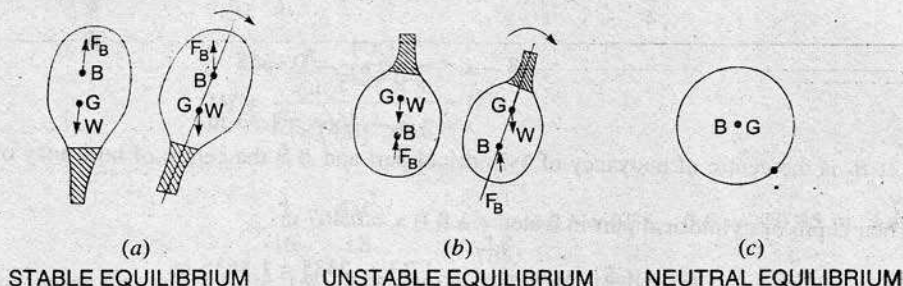

Fig. 4.12 Stabilities of sub-merged bodies.
4.7.1 Stability of a Sub-merged Body. The position of centre of gravity and centre of buoyancy in case of a completely sub-merged body are fixed. Consider a balloon, which is completely sub-merged in air. Let the lower portion of the balloon contains heavier material, so that its centre of gravity is lower than its centre of buoyancy as shown in Fig. 4.12 (a). Let the weight of the balloon is W . The weight W is acting through G , vertically in the downward direction, while the buoyant force F_B is acting vertically up, through B . For the equilibrium of the balloon $W = F_B$. If the balloon is given an angular displacement in the clockwise direction as shown in Fig. 4.12 (a), then W and F_B constitute a couple acting in the anti-clockwise direction and brings the balloon in the original position. Thus the balloon in the position, shown by Fig. 4.12 (a) is in stable equilibrium.
(b) **Unstable Equilibrium.** If $W = F_B$, but the centre of buoyancy (B) is below centre of gravity (G), the body is in unstable equilibrium as shown in Fig. 4.12 (b). A slight displacement to the body, in the clockwise direction, gives the couple due to W and F_B also in the clockwise direction. Thus the body does not return to its original position and hence the body is in unstable equilibrium.
(c) **Neutral Equilibrium.** If $F_B = W$ and B and G are at the same point, as shown in Fig. 4.12 (c), the body is said to be in Neutral Equilibrium.